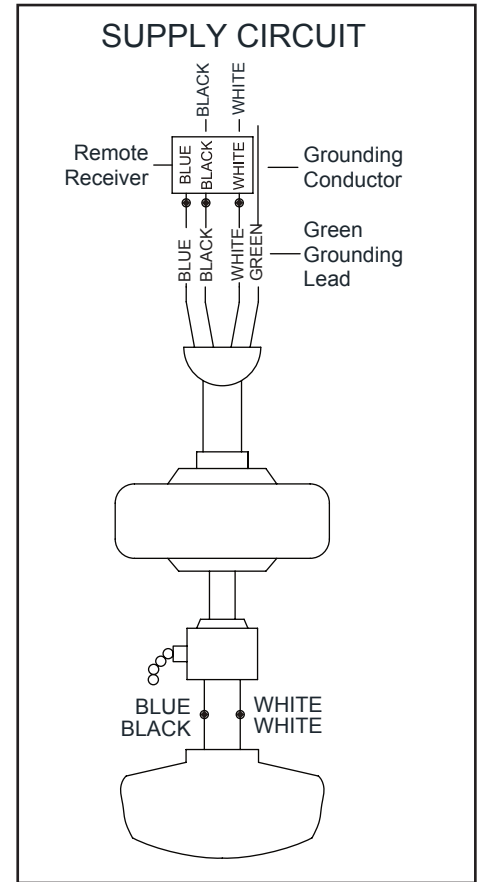

Figure 12
Follow the steps below to connect the fan to your household wiring. Use the wire connecting nuts supplied with your fan and supplied with remote control. Secure the connectors with electrical tape. Make sure there are no loose strands or connections. (Figure 12)
1. Connect the ground conductor of the 120v supply (this may be a bare wire or a wire with green colored insulation) to the green ground lead(s) of the fan (Figure 12).
2. Connect the fan motor white wire to the receiver white wire using a wire nut (Figure 12).
3. Connect the fan motor black wire to the receiver black wire using a wire nut (Figure 12).
4. Connect the fan motor blue wire to the receiver blue wire using a wire nut (Figure 12).
5. Connect the receiver black wire to the supply black (hot) wire using a wire nut (Figure 12).
6. Connect the receiver white wire to the supply white (neutral) wire using a wire nut (Figure 12).